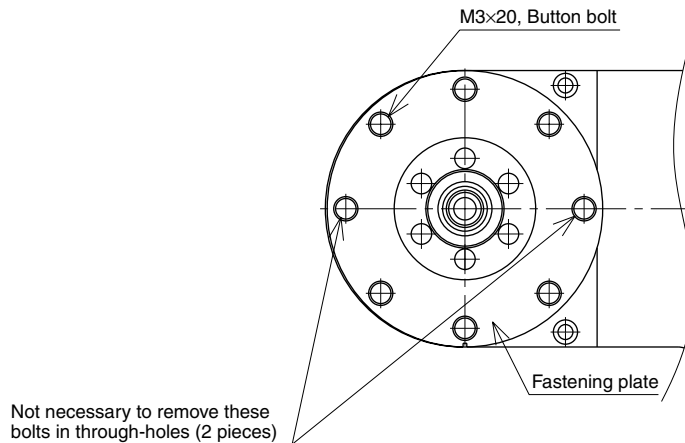

Fig. 5-13
- 8) Remove the button bolts (M3×20L, 6 pieces) on the underside of the Y-axis arm and remove the plate fastening the spline and the harmonic drive. (See Fig. 5-13.)